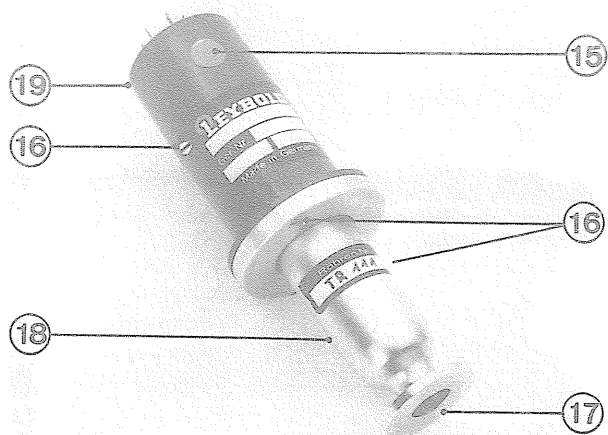

Fig. 3
4. Construction of the gauge heads (see Fig. 3)